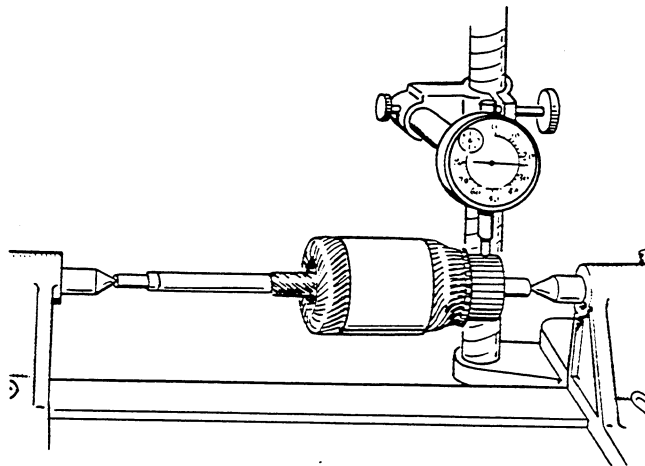

FIGURE 42. CHECKING COMMUTATOR RUNOUT
4. **Testing Commutator Runout.** Place armature in a test bench and check runout with a dial indicator. When commutator runout exceeds .004-inch (0.10 mm), commutator should be refaced (Figure 42).